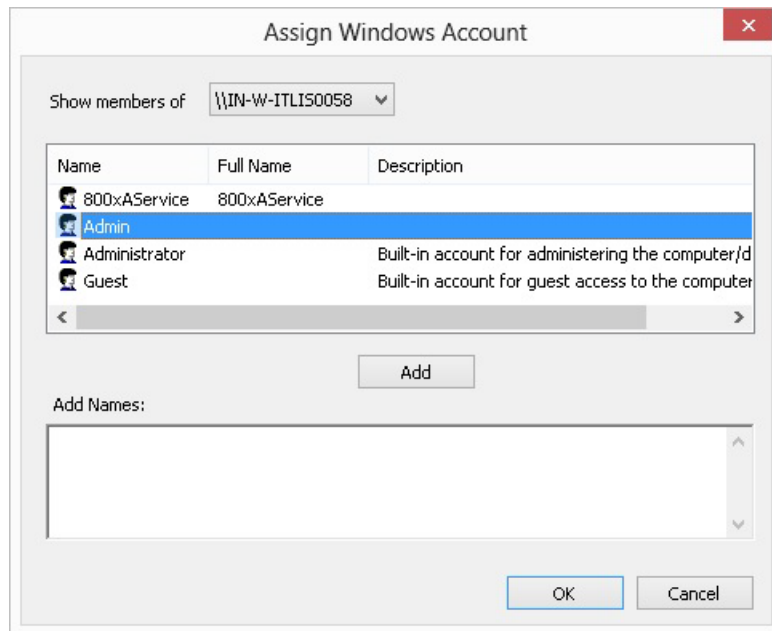

Figure 28. Assign Windows Account Dialog Box
2. The list of the Windows users of the selected domain are shown, see Figure 28. Select the Windows users you want to add to the System 800xA users and click **Add**.